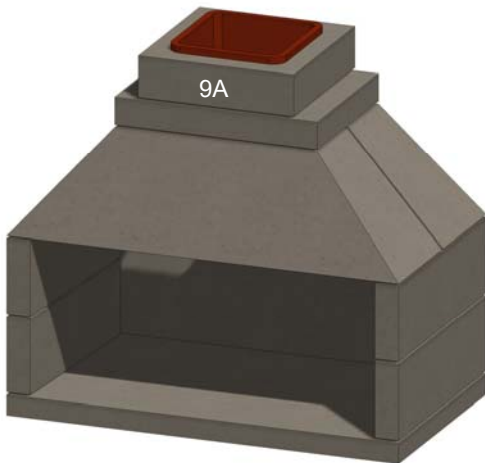

Figure 14. Chimney Flue
H. Patio Series kits include 2 chimney sections. A maximum of four additional feet of chimney is recommended with the Patio Series fireplaces. Install the first Stone Age masonry chimney section (9A), with the tile extending upward. Fill the void on the bottom with mortar to create a smooth transition. See Figure 14.